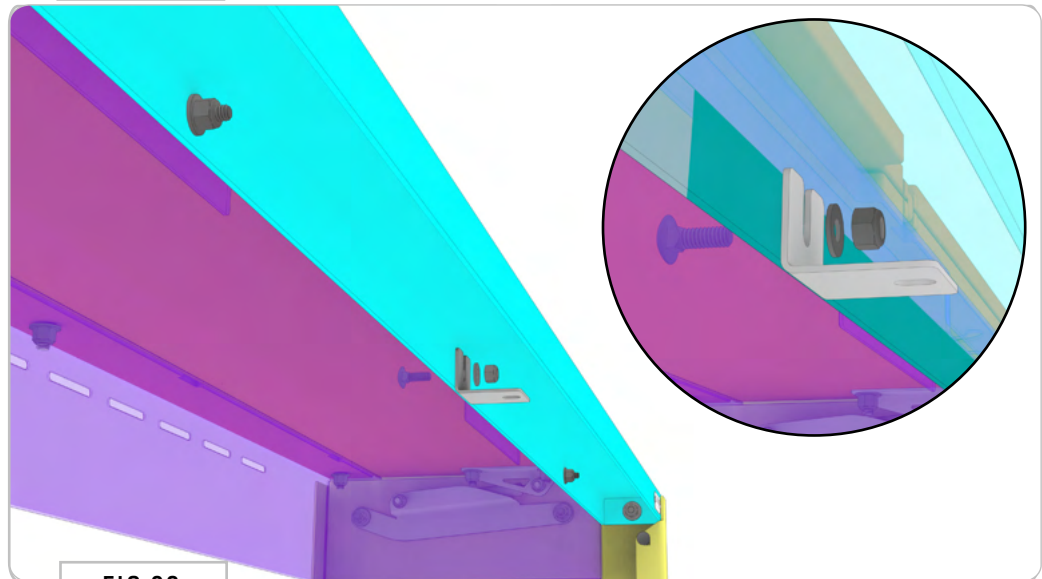

FIG 32
**2.13 Install Center Bracket:** Attach the Center Support Bracket to the middle of the Landing Flange using (1) 1/4-20 x 0.75 Square Neck Carriage Bolts, Flat Washers and Nylon Locknuts (FIG 32).